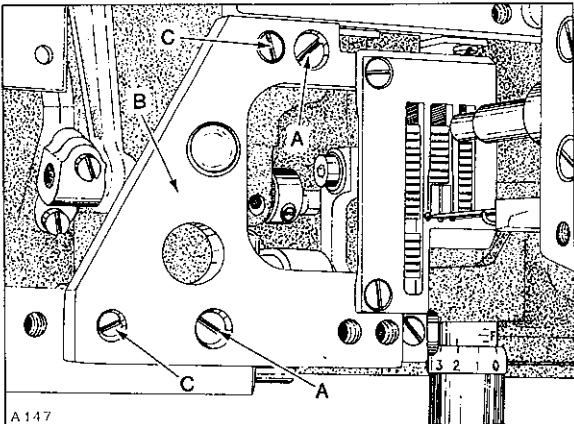

Fig. 17
A slight 4-way directional adjustment of the throat plate can be accomplished by loosening two screws (A, Fig. 17) in throat plate support (B). Loosen two screws (C) which secure locating ferrules, permitting movement of throat plate support. Reposition as required, considering BOTH the needle holes and feed dog slots in throat plate. Tighten screws (C) FIRST, then screws (A). Under EXTREME conditions, a very slight (right to left) adjustment of feed dogs can be acquired by loosening their respective feed dog holder screws....RETIGHTEN.